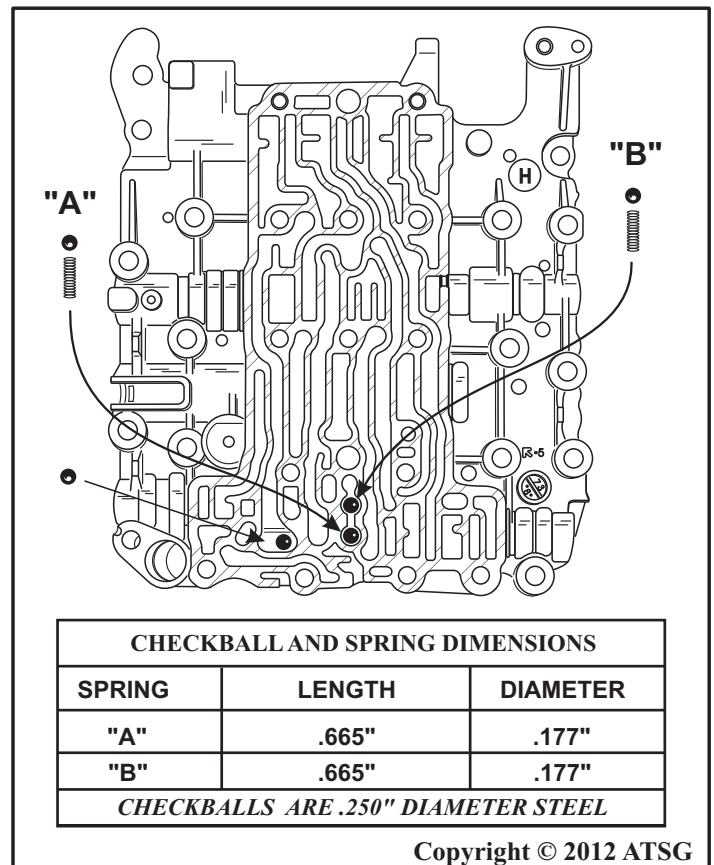

Figure 219
28. Turn the valve body over with the spacer plate facing down, as shown in Figure 219.
29. Install the "A" check ball and spring with the spring going in first, as shown in Figure 219.
30. Install the "B" check ball and spring with the spring going in first, as shown in Figure 219.
31. Install the last check ball into the bath tub, as shown in Figure 219.
Note: Spring and check ball dimensions are shown in Figure 219.